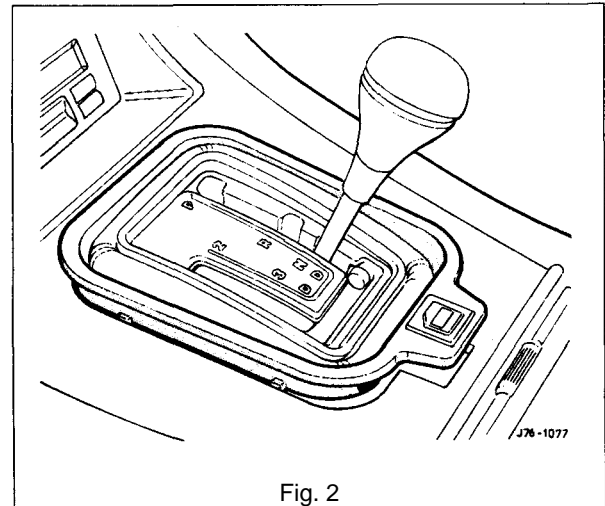

Fig. 2
- Carefully displace and remove the gearshift aperture plastic finisher, Fig. 2.
- Remove the mode switch finisher (Fig. 2).
- Carefully displace and remove the finisher (Fig. 2).